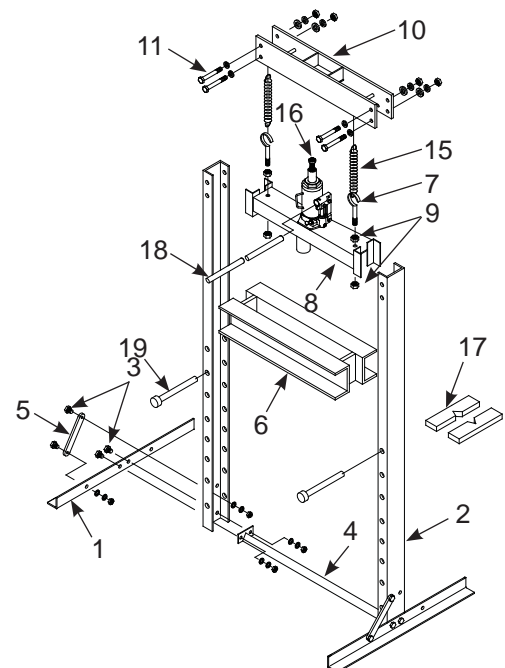

Figure 2 - Assembly Illustration for model ATD-7453
Model ATD-7453: (Refer to Figure 2)
1. Attach base legs (1) and lower cross member (4) to upright channels (2) with bolts, flat washers, lock washers and nuts (3). Hand tighten only.
2. Attach support links (5) to the base (1) and upright channels (2) with bolts, flat washers, lock washers and nuts (3).
3. Carefully slide bed frame (6) down to lowest possible position between the upright channels (2).
4. Attach screw hooks (7) to the jack bracket (8) with nuts (9) as shown in figure 2. Leave nut untighten to provide easy spring attachment.
5. Slide the jack bracket (8) down between upright channels (2) onto the bed frame (6).
6. Attach upper cross member (10) to upright channels (2) with bolts, flat washers, lock washers and nuts (11).
7. Attach one end of the springs (15) to the axles of upper cross member (10) and the other end to the screw hooks (7) on the jack bracket.
8. Carefully place the bottle jack (16) between the head plate of upper cross member (10) and jack bracket (8). Tighten the nuts (9) that hold screw hooks (7) to prevent jack from inadvertently falling out.
10. Carefully bring the bed frame (6) up and secure it with pins (9).
11. Place the Arbor Plates (17) on Bed Frame (6).
12. The press is now ready to use. Don't forget to insert the handle (18) into handle sleeve of bottle jack.